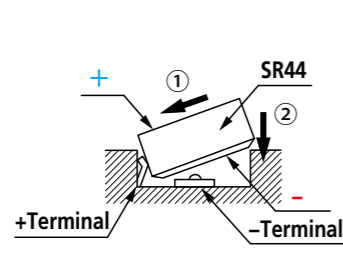

Fig. 2
3. For a digimatic type, use an SR44 battery (Order No. 938882). (Fig. 2)